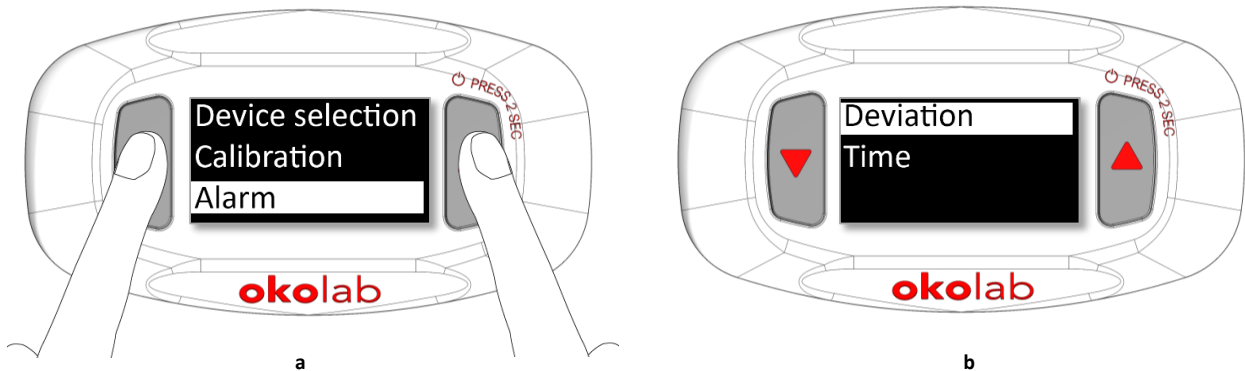

Figure 24. Alarms settings. (a) How to enter the Alarm setting menu; (b) Alarm configuration.
1. Press UP & DOWN buttons at the same time for 1 second (see Figure 24 a) to enter the *Alarm* page. The submenu will appear as shown in Figure 24 b.